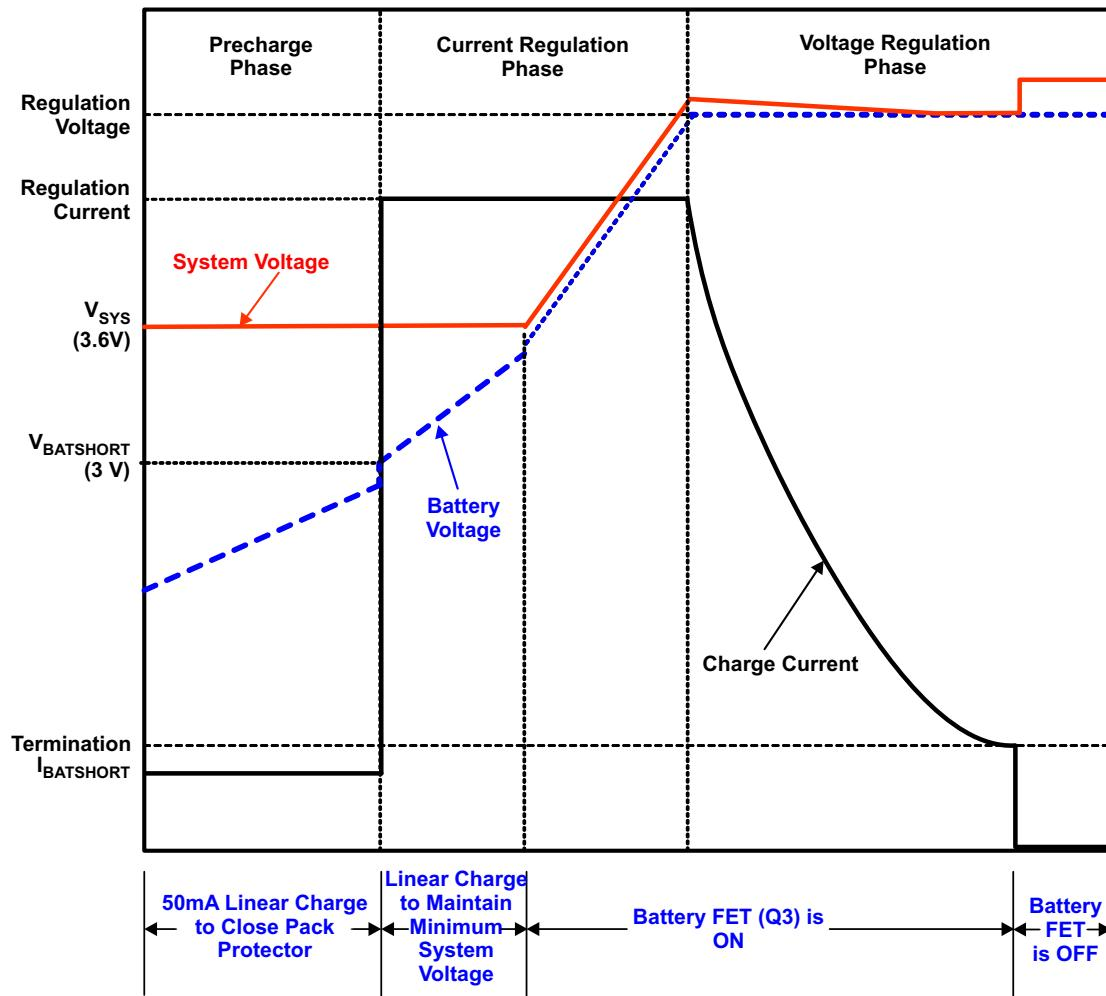

Figure 10. Typical Charging Profile of bq24266
The bq24266 supports a precision Li-Ion or Li-Polymer charging system for single-cell applications. Charging is done through the internal battery MOSFET. There are 6 loops that influence the charge current; constant current loop (CC), constant voltage loop (CV), thermal regulation loop, minimum system voltage loop (MINSYS), input current limit and V_{IN}-DPM. During the charging process, all six loops are enabled and the one that is dominant takes control. The minimum system output feature regulates the system voltage to V_{SYSREG(LO)}, so that startup is enabled even for a missing or deeply discharged battery. Figure 10 shows a typical charge profile including the minimum system output voltage feature.
Once the battery is charged enough that the system voltage rises above $V_{SYSREG(LO)}$ (approximately 3.5V), the battery FET is turned on fully and the battery is charged with the full programmed charge current set by ISET. The charge current is regulated to I_{CHARGE} until the voltage between BAT and PGND reaches the regulation voltage. The voltage between BAT and PGND is regulated to V_{BATREG} (CV mode) while the charge current naturally tapers down as shown in Figure 10. During CV mode, the SYS output remains connected to the battery. The impedance of the battery FET is increased to 4x of the fully on value when IBAT falls below ~350mA to provide increased accuracy during termination. This will show a small rise in the SYS voltage when the $R_{DS(ON)}$ increases below ~350mA.